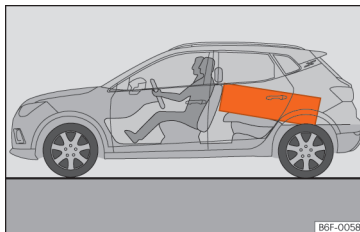

Fig. 161 Position heavy items as far forward as possible.
- Place heavy objects as far forward as possible in the luggage compartment »» Fig. 161.